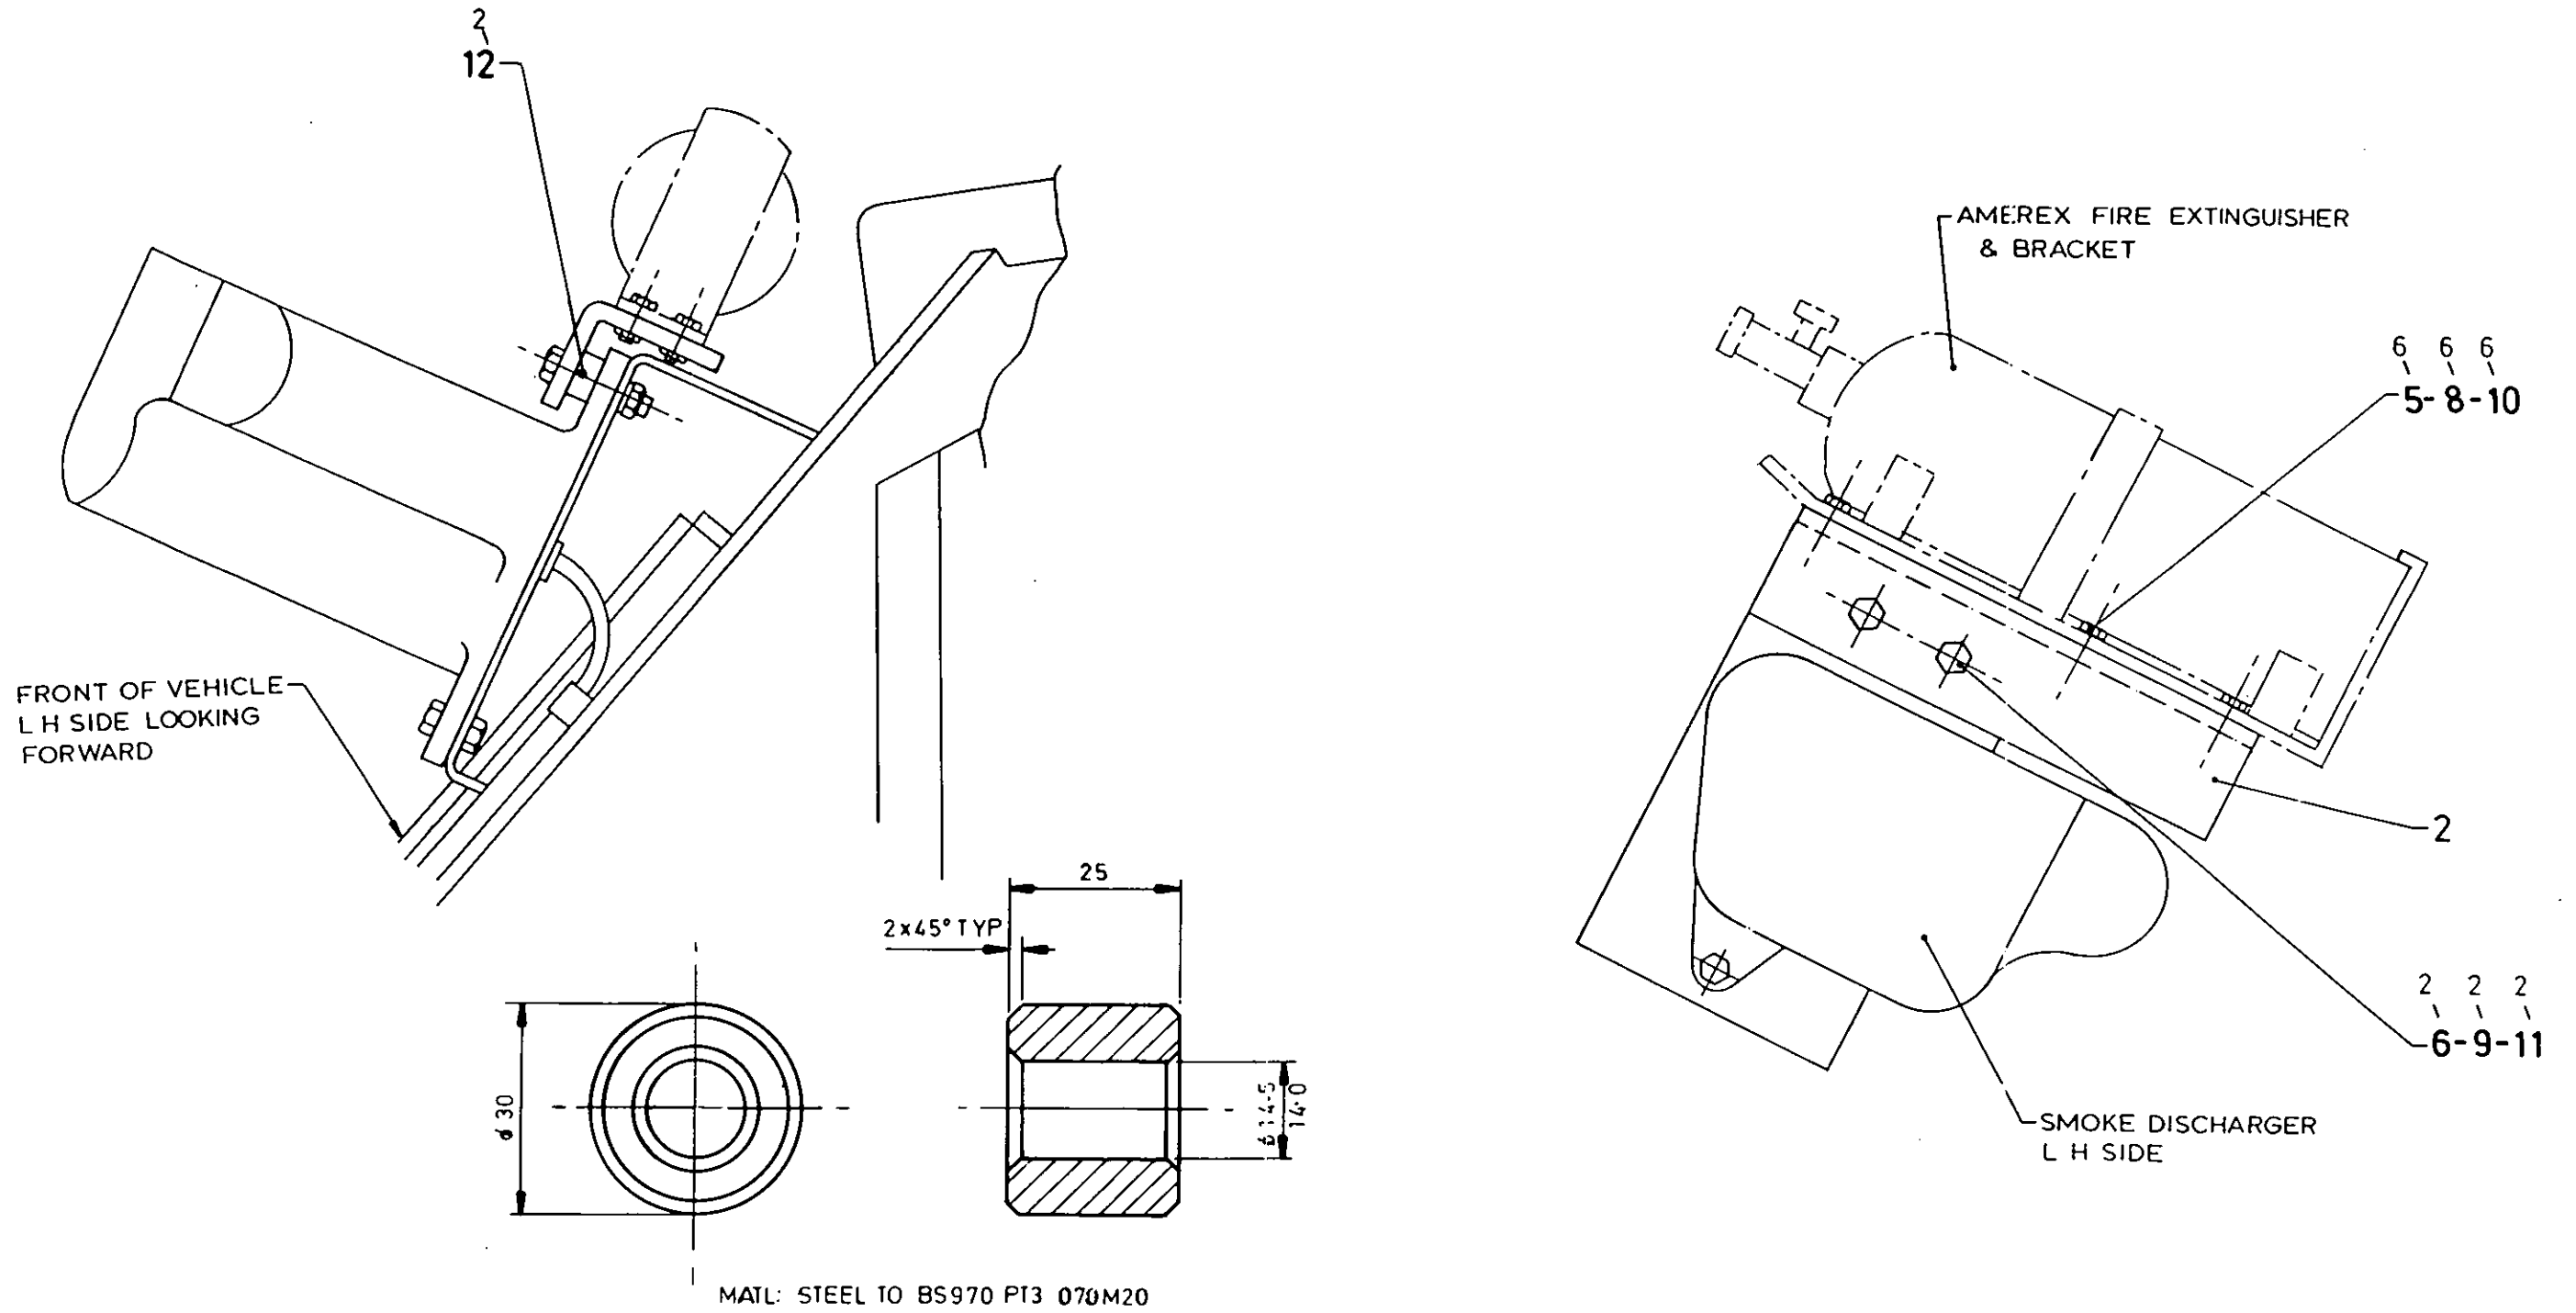

Fig 1 Fire extinguisher mounting front
Refer to Fig 1 and 2 to fit brackets (items 1 to 12 inclusive) as detailed.
See Fig 1 for manufacture details of spacer (item 12).
9.3 Remove bolts, nuts and washers (items 13, 14 and 15) from smoke discharger (Fig 1), and attach mounting plate and spacers (items 2 and 12) to smoke discharger brackets using bolts, washers and nuts (items 6, 9 and 11).